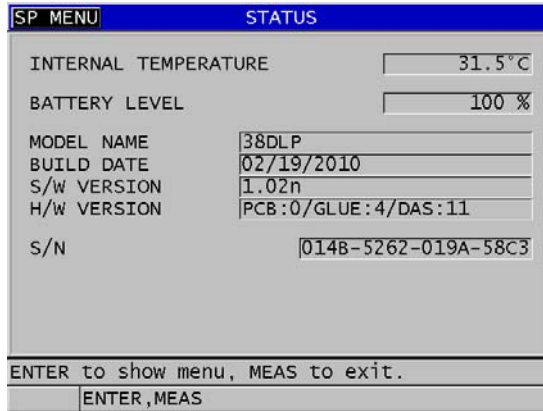

Figure 15-5 Example of the STATUS screen
2. In the menu, select **STATUS** (see Figure 15-5 on page 271).